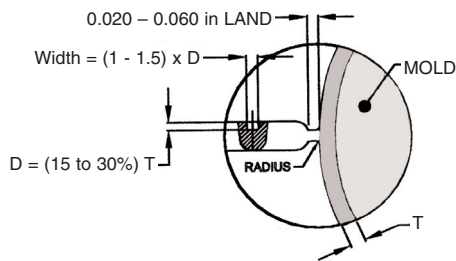

Figure 3.2 Tab or edge gate
These types of gates (Figure 3.2) most commonly utilize a conventional sprue and cold runner system. They are located along the tool parting line. The part design may use a small undercut where the gate meets the part to minimize gate vestige protruding above the part surface. Advantages of edge gates are ease of fabrication, modification and maintenance. The gate depth (D) should be 15-30% of the wall thickness at the gate entrance. Common practice is to start "steel safe". A good starting point for the gate width should be 1-1.5 times the gate depth. The gate size is also depend on the part volume. The gate area in the mold may be inserted to facilitate gate maintenance or modification.